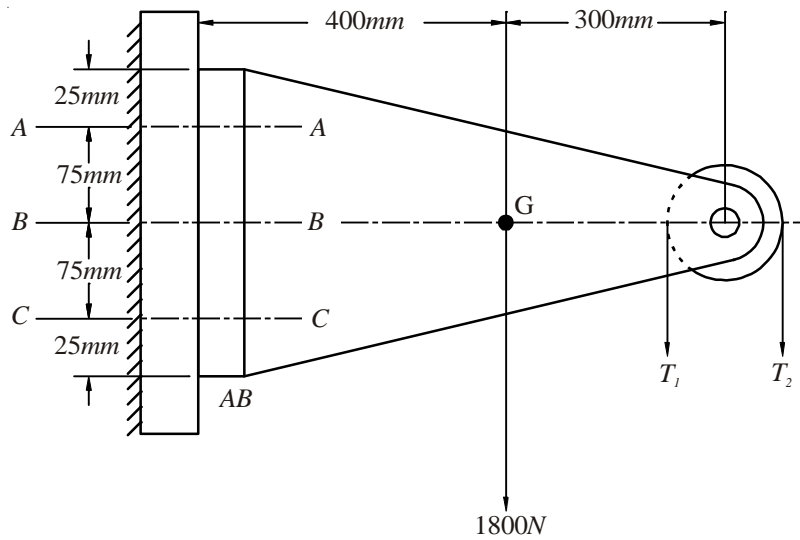

Figure-4.17
- 4) A pulley bracket weighing 1800N is bolted to a vertical support by six bolts, 2 at AA, 2 at BB and 2 at CC as shown in figure-4.17. The tensions on slack and tight side are 3kN and 7kN respectively. Using a permissible tensile stress of 90MPa for the material of bolt, determine the standard size of ISO-metric screw bolts required.